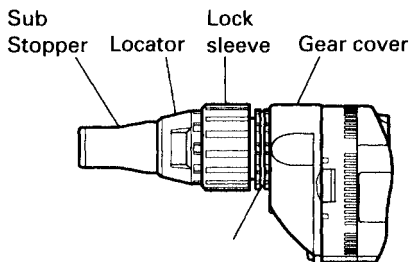

Fig. 3
7. Adjusting the tightening depth (Fig. 3)